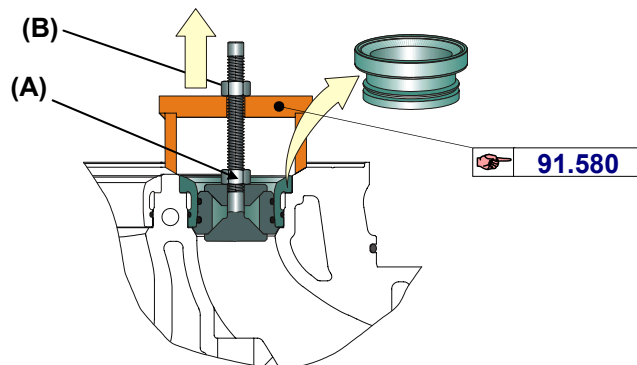

Fig. 1 Dismount valve seat ring by means of the tool (공구를 사용한 밸브 시트 링의 분해)
1. Mount the extracting tool (optional)  **91.580** on the valve seat as shown in fig 1.
2. Clamp valve seat ring tightly by turning nut (A).
3. Extract the valve seat ring by turning nut (B).